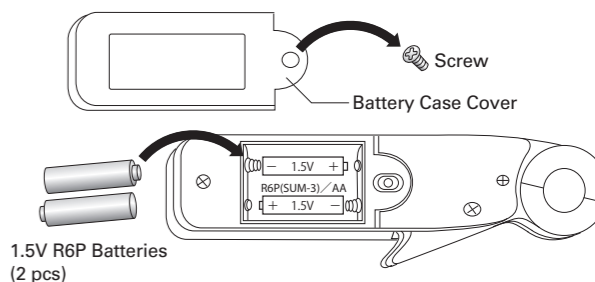

fig. 7
6. Replace Battery Case Cover and screw. Refer to the fig. 7.